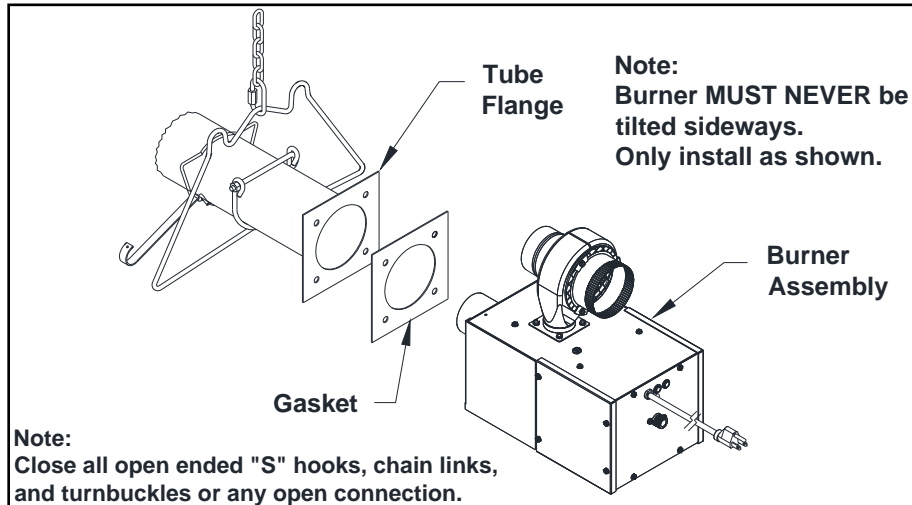

Figure 10: Burner Gasket Installation
- Locate the burner gasket provided, bolt the burner in place on the tube flange with provided hardware. **Burner must never be installed in a tilted position.** The sense electrode of the burner cup should be in the 12 o'clock position (Figure 10).